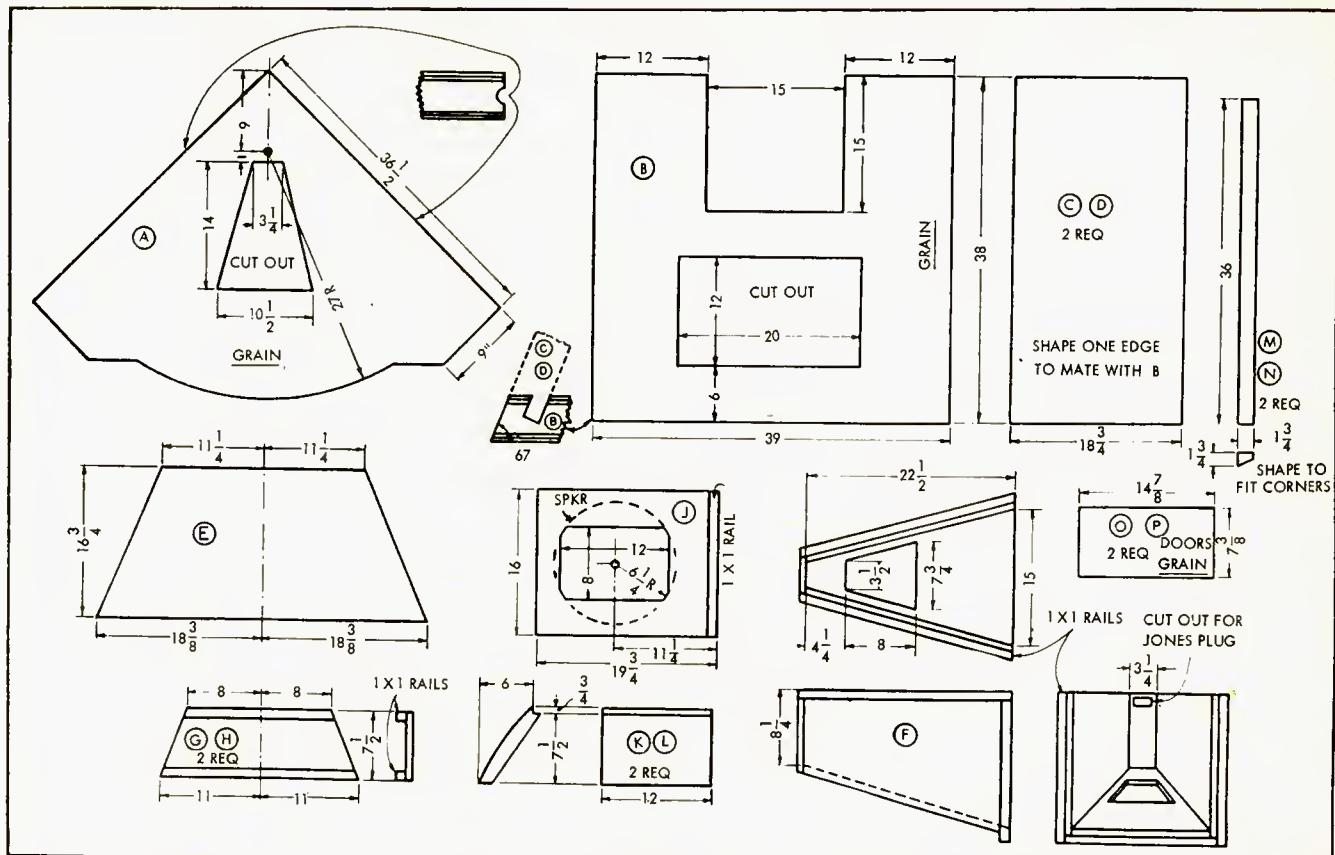

Fig. 4. Details of the pieces which comprise the lower cabinet, speaker well, and tube enclosure. Latter is for 12-in. tube, now almost obsolete.
Figure 4 shows the major parts used in the assembly of the low-frequency portion of the speaker, together with the housing for the picture tube. This housing is sealed for a 12LP4, which is obsolete by now. If a larger tube is to be used, the housing should be arranged to be large enough. However, it is felt that the majority will not combine TV with the speaker anyhow, and will simply omit the tube housing or else place the high-frequency horn at this point, with a suitable housing around it. Figure 5 shows one model with the high-frequency horn in a space at the top.
be described in the following pages, and the parts are not shown in *Fig. 4*. However, it might be well to plan on another veneered piece nearly as large as the top (A), since the grain should run parallel with the front of the cabinet. The two tops will cut readily from one panel of hardwood veneer.